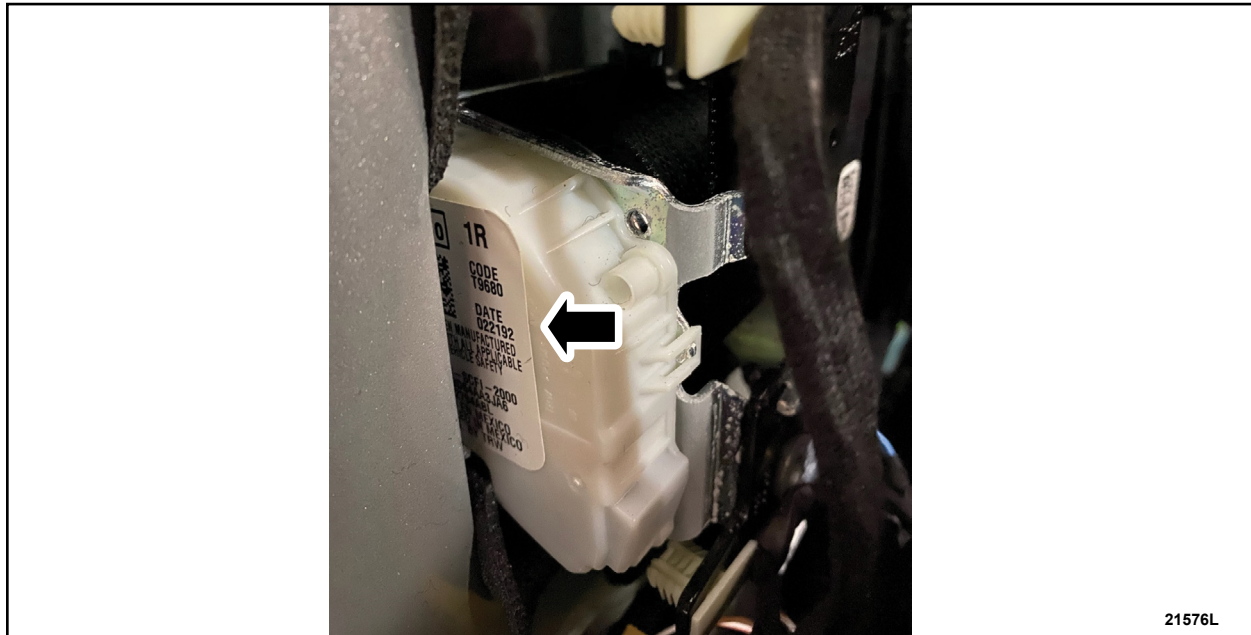

FIGURE 11
12. Locate the part label sticker on the back of the Left-Hand (LH) and Right-Hand (RH) front seatbelt retractors. See Figure 11.